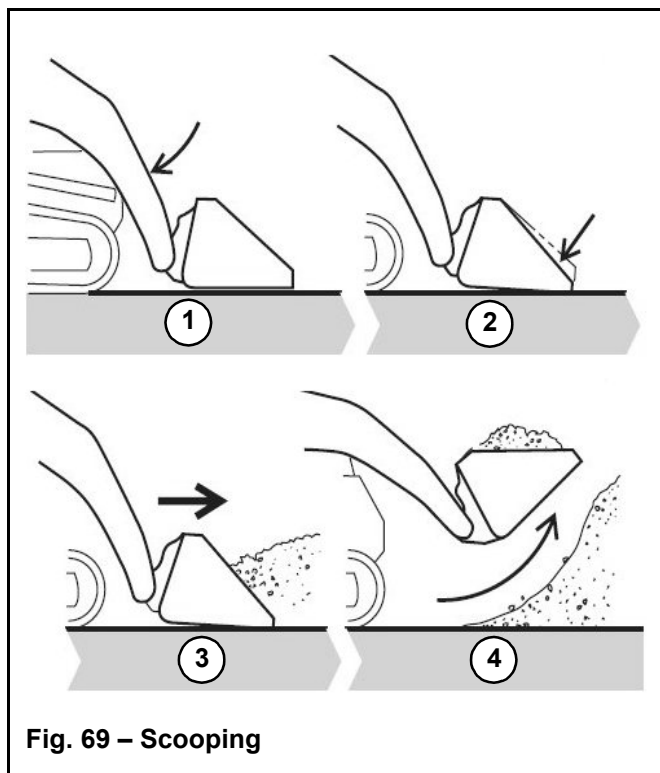

Fig. 69 – Scooping
1. Lower the bucket to the ground (Fig. 69).